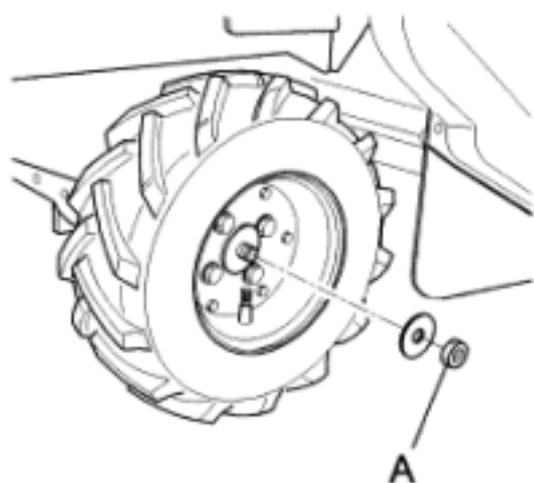

Fig. 7
- remove the wheel illustrated in fig. 7, by unscrewing and removing the central fixing screw (fig. 7, ref. A)